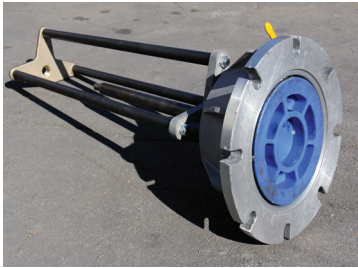

Figure 1
E.4) Install saw mandrel into the tapping machine housing. Align the bottom of completion plug so that it is flush with the bottom of the tap machine housing (see Figure 1). **NOTE:** If completion plug is not aligned flush with the bottom of tap machine housing the completion process as outlined in this document will not be successful.